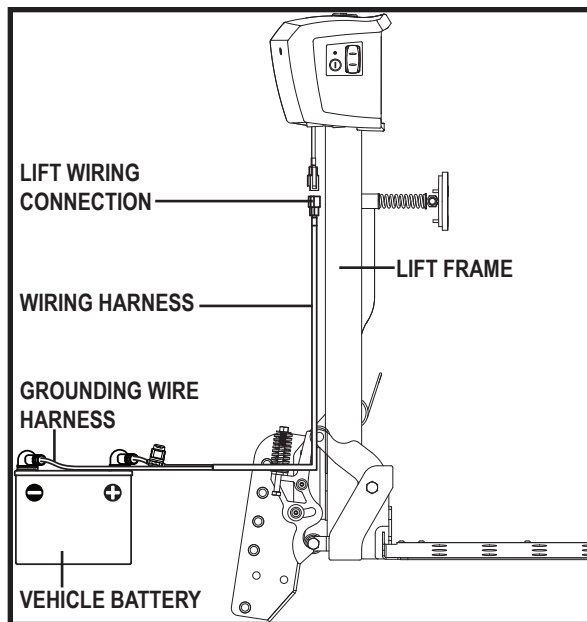

Figure 10. Wiring Harness Installation
1. Route the lift system wiring harness (starting at the lift) through the interior of the vehicle until you reach the vehicle battery. **See figure 10.** You will typically find pass-through points at the rear lighting assemblies, which will enable you to route the cable through the trunk and under the back seat.